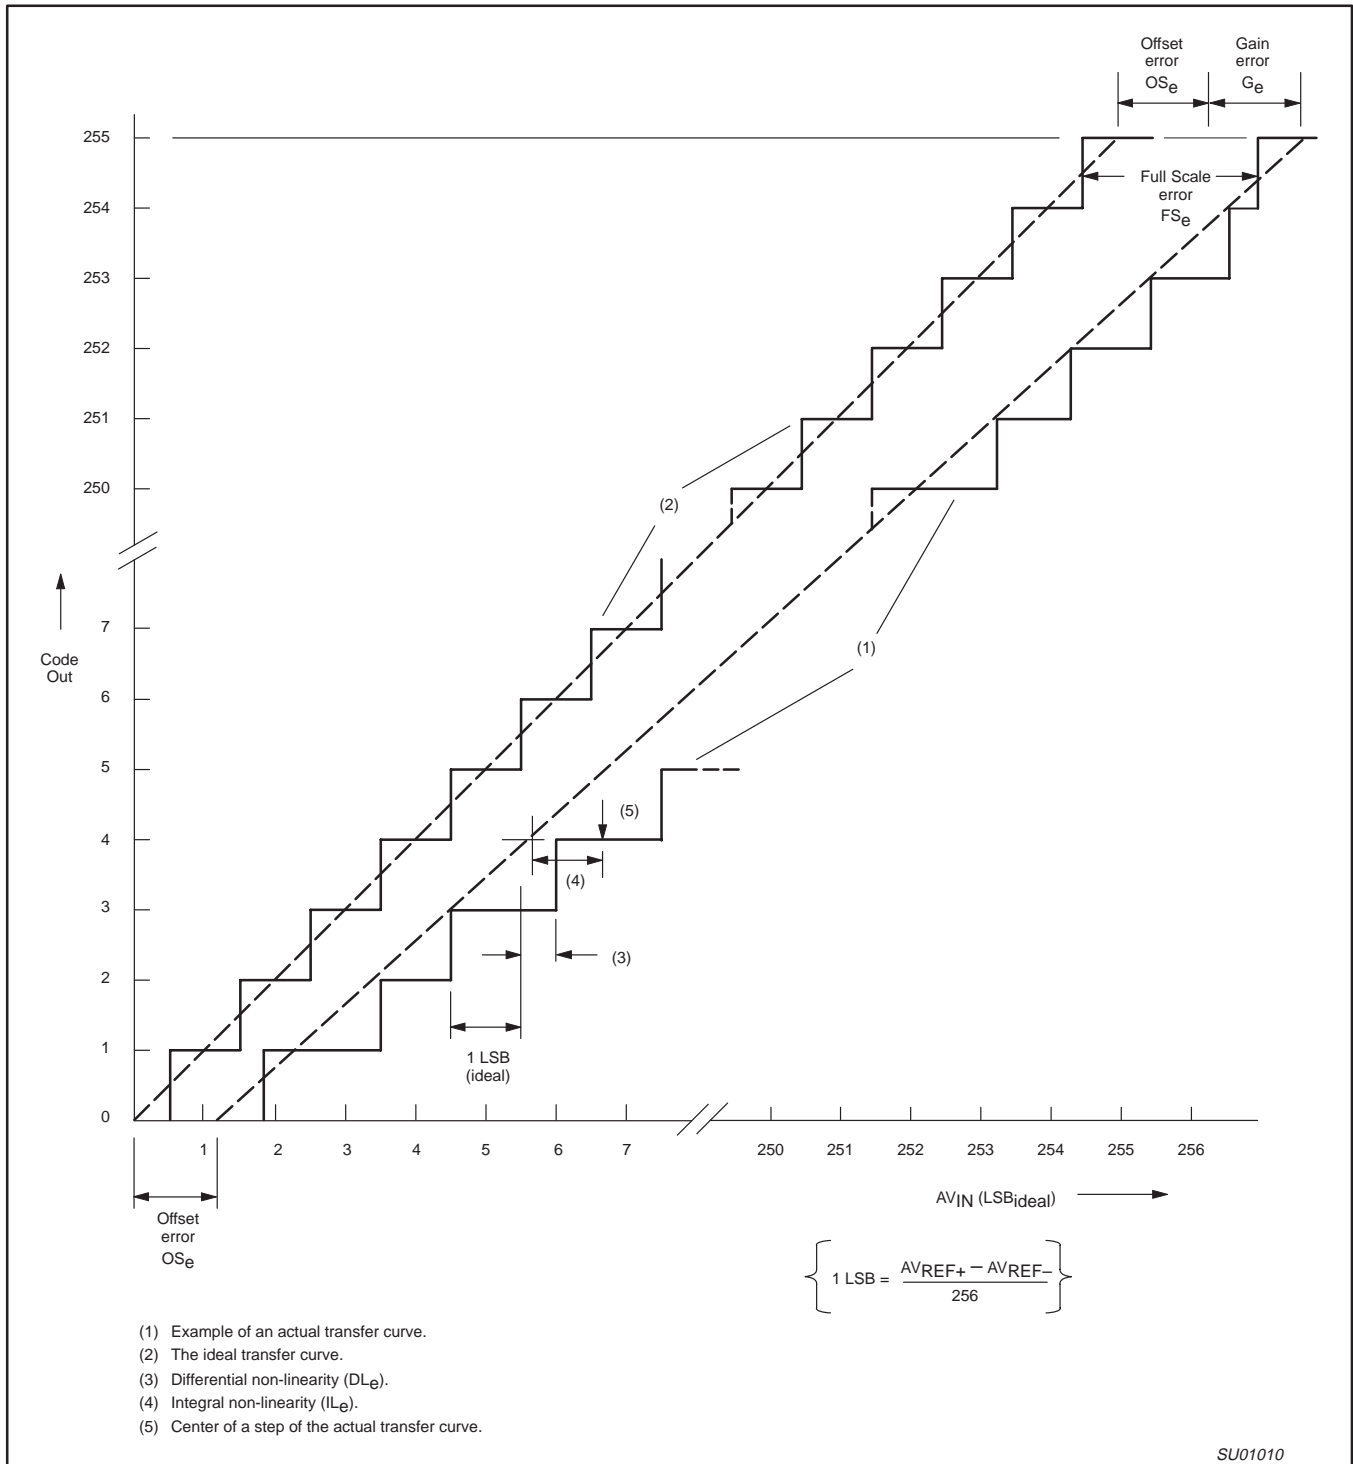

Figure 12. ADC Conversion Characteristic
- The differential non-linearity (DLe) is the difference between the actual step width and the ideal step width. See Figure 12.
- The integral non-linearity (ILe) is the peak difference between the center of the steps of the actual and the ideal transfer curve after appropriate adjustment of gain and offset errors. See Figure 12.
- The offset error (OSe) is the absolute difference between the straight line which fits the actual transfer curve (after removing gain error), and the straight line which fits the ideal transfer curve. See Figure 12.
- The gain error (Ge) is the relative difference in percent between the straight line fitting the actual transfer curve (after removing offset error), and the straight line which fits the ideal transfer curve. Gain error is constant at every point on the transfer curve. See Figure 12.
2. The differential non-linearity (DLe) is the difference between the actual step width and the ideal step width. See Figure 12.
4. The integral non-linearity (ILe) is the peak difference between the center of the steps of the actual and the ideal transfer curve after appropriate adjustment of gain and offset errors. See Figure 12.
5. The offset error (OSe) is the absolute difference between the straight line which fits the actual transfer curve (after removing gain error), and the straight line which fits the ideal transfer curve. See Figure 12.
6. The gain error (Ge) is the relative difference in percent between the straight line fitting the actual transfer curve (after removing offset error), and the straight line which fits the ideal transfer curve. Gain error is constant at every point on the transfer curve. See Figure 12.